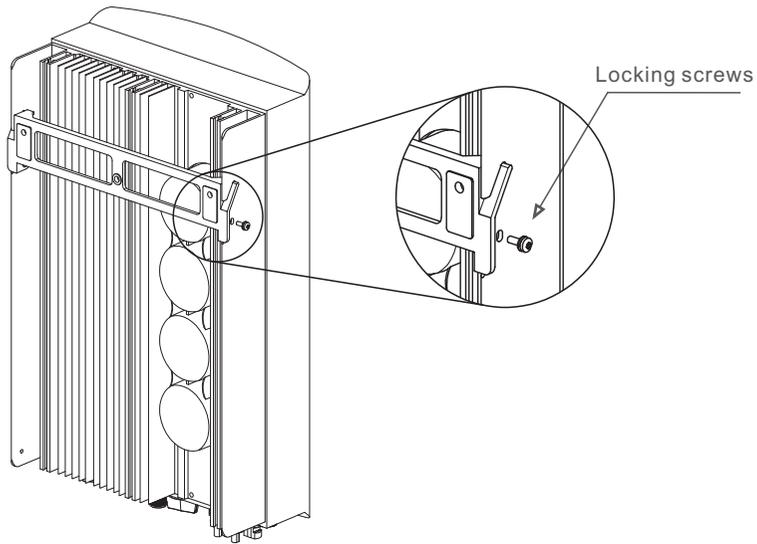

Figure 4.5 Wall Mount Bracket
Please see Figure 4.4 and Figure 4.5 for instruction on mounting the inverter.
4. Lift up the inverter (be careful to avoid body strain), and align the back bracket on the inverter with the convex section of the mounting bracket. Hang the inverter on the mounting bracket and make sure the inverter is secure (see Figure 4.5).